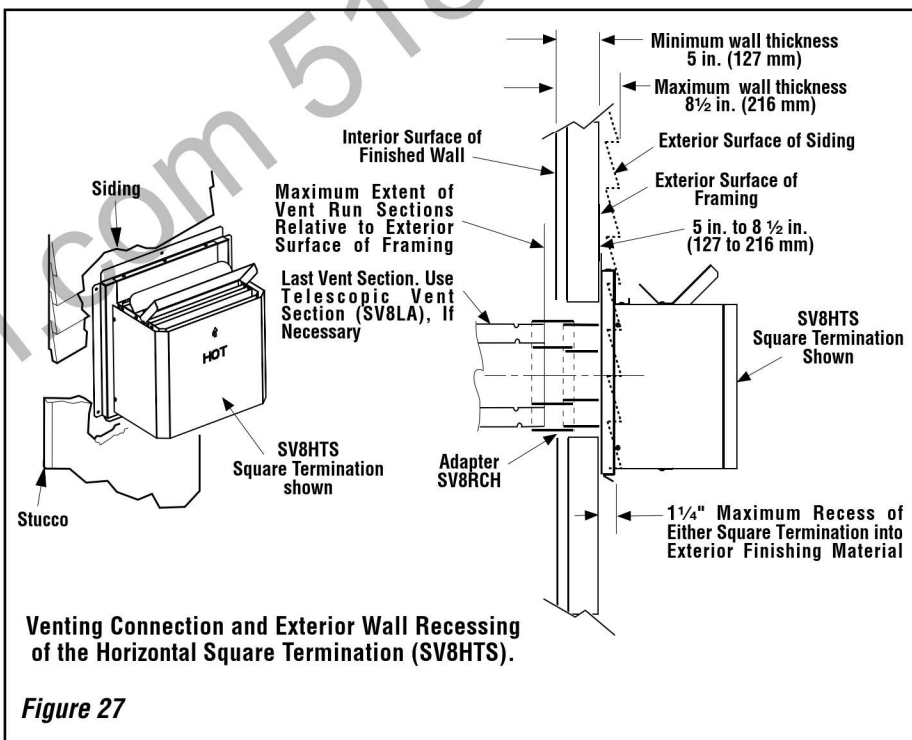

Figure 27
J. Assemble vent run to exterior wall - If not previously measured, locate the center of the vent at the exterior wall. Prepare an opening as described in **Step B**. Assemble the vent system to point where the terminus of the last section is within 5 in. (127 mm) to 8 1/2 in. (216 mm) inboard of the exterior surface to which the SV8HTS termination is to be attached, see **Figure 27**. If the terminus of the last section is not within this distance, use the **telescopic vent section SV8LA**, as the last vent section. For wall thicknesses greater than that shown in **Figure 27**, refer to **Table 3 on page 16**. This table lists the additional venting components needed (in addition to the termination and adapter) for a particular range of wall thicknesses.
M. Install the square termination (SV8HTS) - For the last step, from outside the exterior wall, slide the collars of the termination onto the adapter (the outer over the outer and the inner inside the inner) until the termination seats against the exterior wall surface to which it will be attached. Orient the housing of the termination with the arrow pointed upwards. Secure the termination to the exterior wall. **The horizontal termination must not be recessed into the exterior wall or siding by more than the 1 1/4" (32 mm) as shown in Figure 27.**